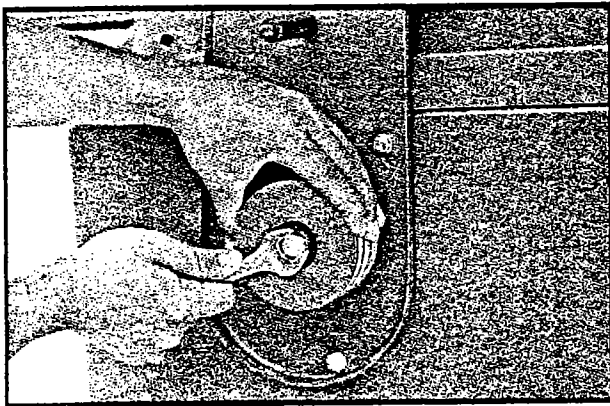

Fig. 9
1. Assemble motor pulley (H) to motor shaft, as shown in Fig. 9. Make sure key is inserted into keyway of motor shaft and motor pulley, and tighten two screws in motor pulley, and tighten two screws in motor pulley, using allen wrench (J).